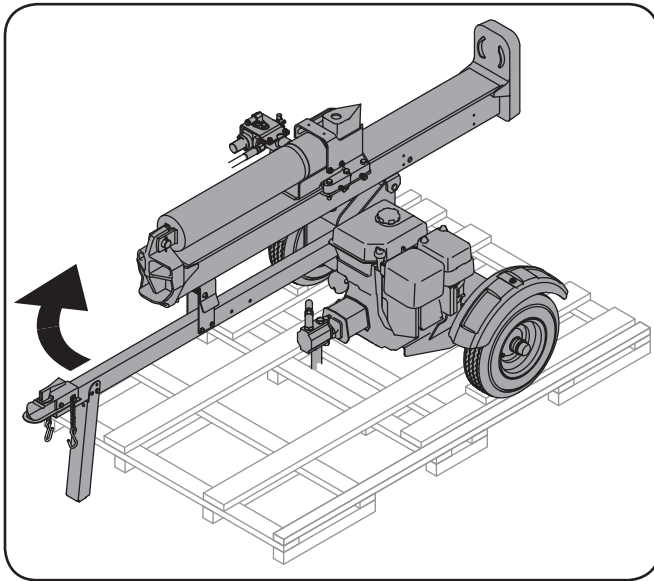

Figure 3-6
- Carefully reposition the log splitter off of the crate by lifting up on the tongue tube, near the hitch coupling, and slowly rotating the machine clockwise. See Fig. 3-6.